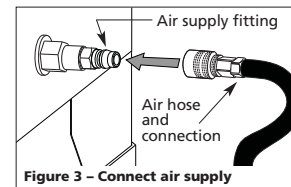

Figure 3 – Connect air supply
2. Connect air supply (max. 125 psi) to the fitting on the side of the cabinet (see Figure 3).